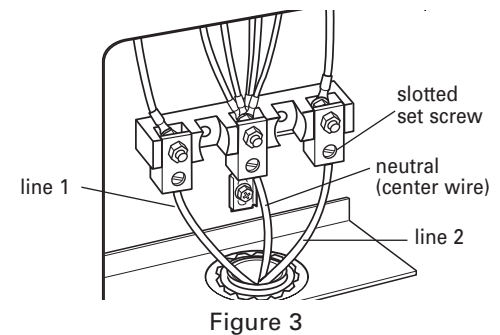

Figure 3
10. Loosen (do not remove) the 3 slotted set screws. Insert the neutral (white) wire into the hole at the bottom of the center terminal screw of terminal block). See Figure 3.
12. Securely tighten the set screws. For 8 gauge copper wire, tighten to 25 in/lbs of torque, and for 6 gauge aluminum wire, tighten to 35 in/lbs of torque to make a proper electrical connection. See Figure 3.